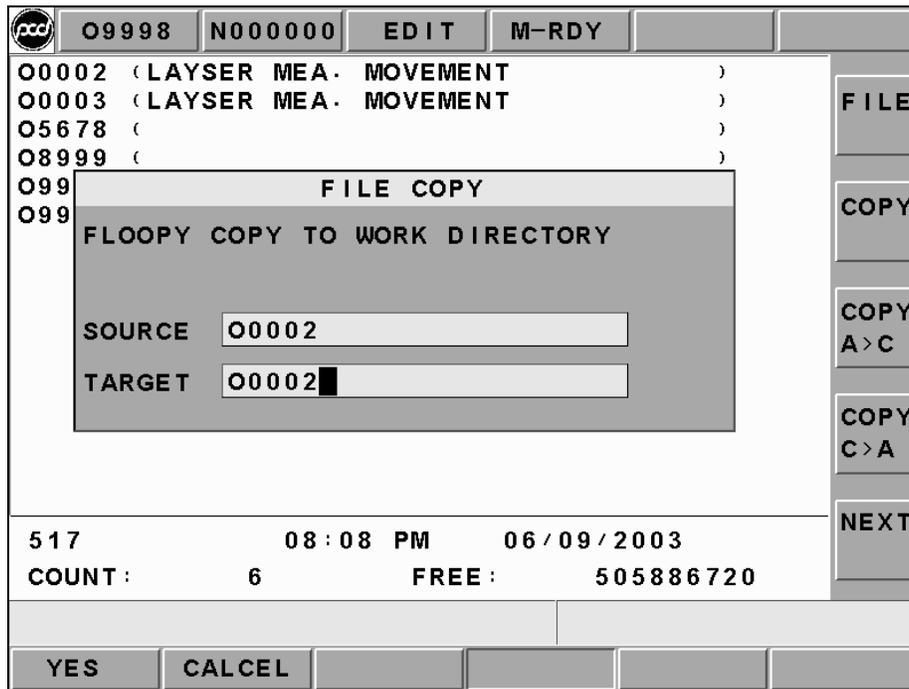

Figure 2.5-13 Target File Name Key-In Screen
2. Selecting a wanted copy file and then key-in the source file name and the destination file name from a popup key-in dialog box. See Figure 2.5-13. The destination file name is default as the source file name. If users do NOT want to use the default file name, then only need to key-in the wanted file name directly and then pressing confirm button to copy the source file form A drive to the current working menu.